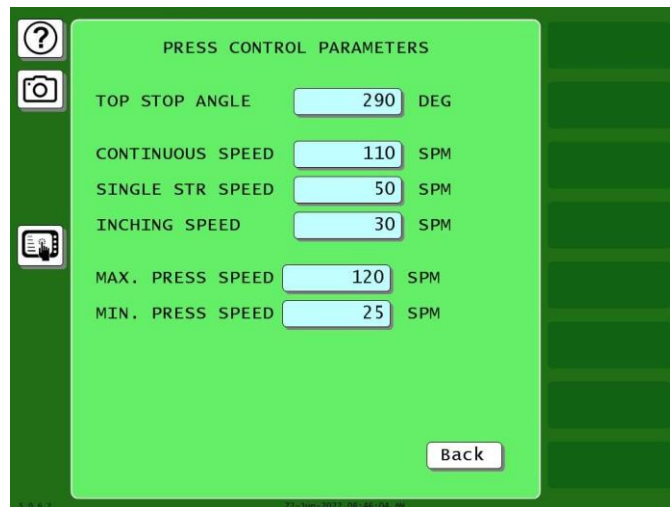

Figure 4-2. Press Control Parameters Screen
4. Press PRESS CONTROL. The Press Control Parameters screen appears, Figure 4-2. Speed settings you can make on the Press Control Parameters screen are shown in Table 4-1, below.